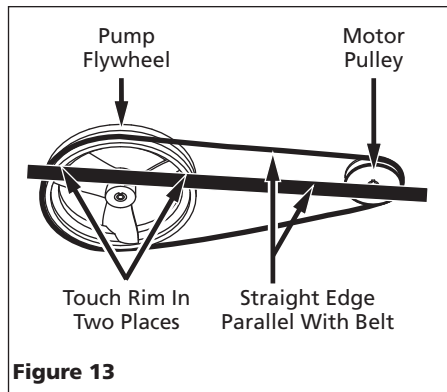

Figure 13
- e. To align belt, lay a straightedge against the face of the flywheel touching the rim at two places (See Figure 13).
- f. Adjust flywheel or motor pulley so that the belt runs parallel to the straightedge (See Figure 13).